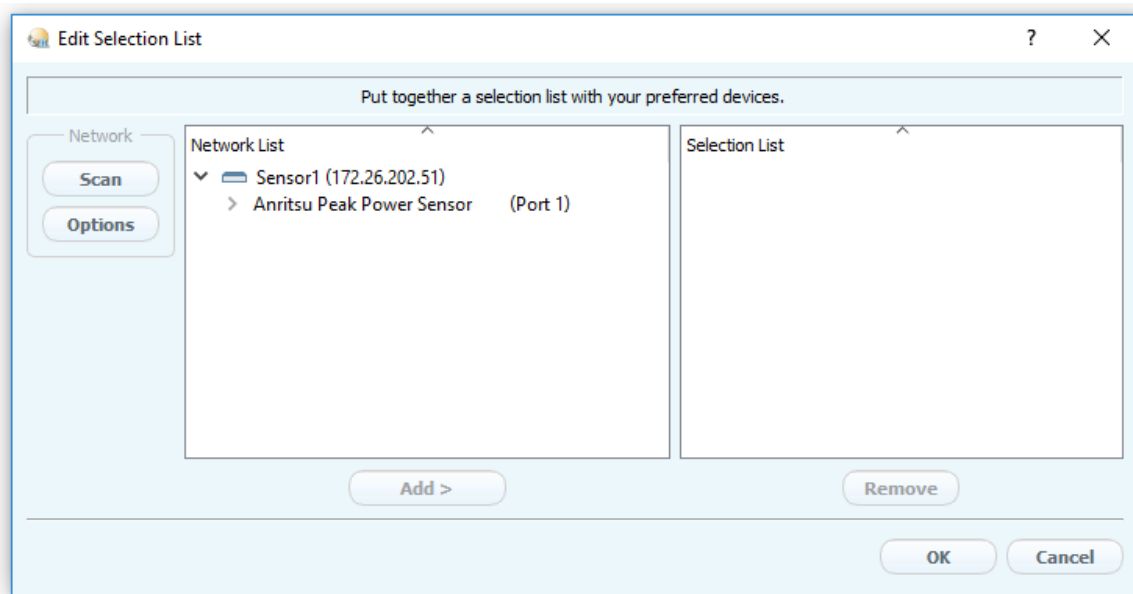

Figure 3. Selection List for Peak Power Sensors
- On your PC is connected to the network, launch the SEH UTN Manager software and click on the scan button. The network automatically assigns an IP address for the sensor and DHCP protocol is assumed. Add the sensor to the listing so that it appears in the second column "Properties" (Figure 3).